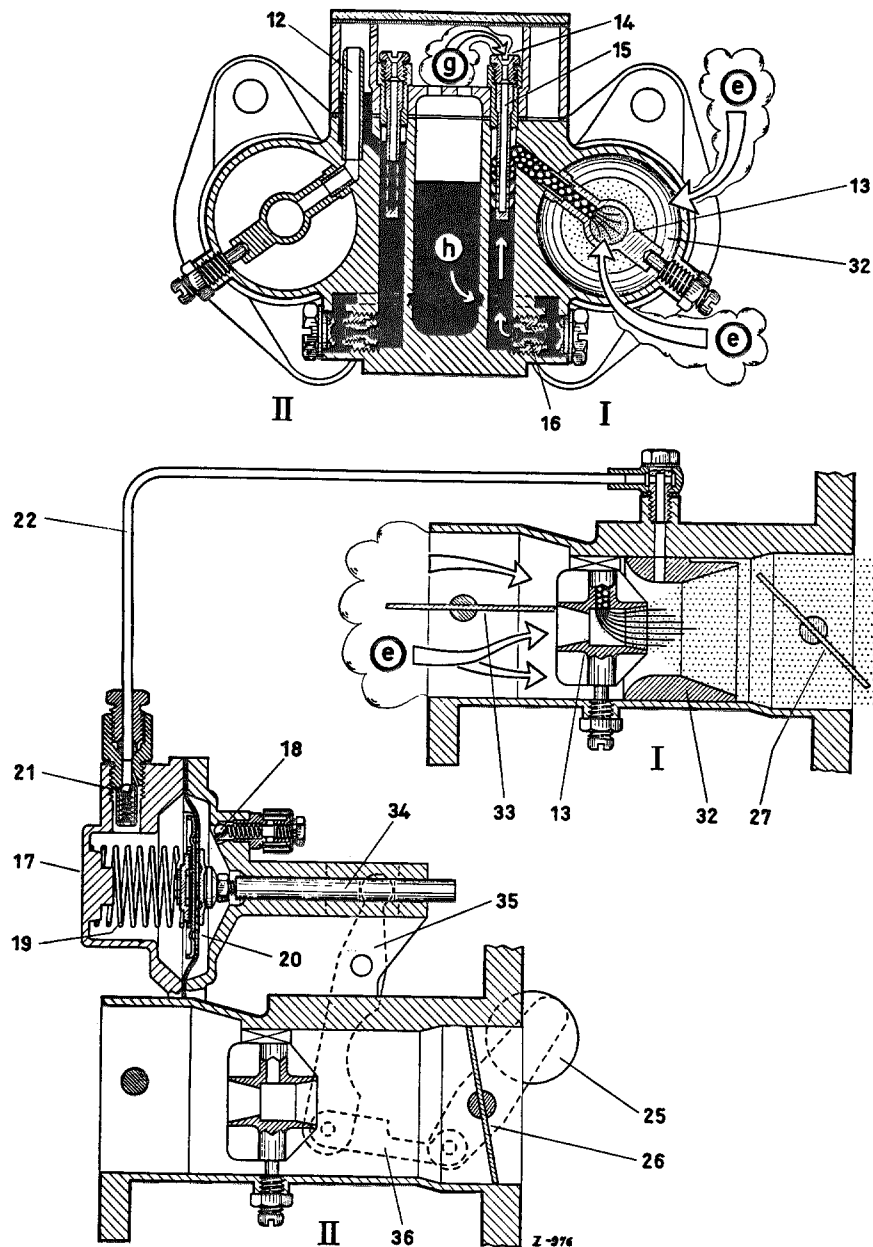

Fig. 07-0/45
**Note:** a) Fig. 07-0/44 shows the die-cast carburetor. As far as the main carburetion system is concerned, the sand-cast carburetor works the same way, the only difference is in the arrangement of the canals and jets (see 07-0/31).
- e) In the sand-cast carburetor the overflow control tube is screwed to the carburetor housing, whereas in the die-cast carburetor it is located inside the carburetor (see Figs. 07-0/31 and 07-0/44).
When the throttle valve (27) of stage 1 is opened, the partial vacuum begins to have an effect on the outlet tube of the diffuser. As a result, fuel is drawn from the cylindrical cavity via the outlet tube of the diffuser and is mixed with the air entering through the air inlet branch. Compensating air enters through the air correction jet (14) in progressively larger amounts, passes through the bores of the mixing tube (15) and combines with the fuel flowing through the main jet to form a mixture. Air enrichment increases with increasing engine speed, thus preventing overenrichment of the mixture (Fig. 07-0/45).